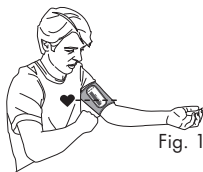

Fig. 1
To determine the proper cuff size, measure the circumference of your left upper arm at the point midway between inside bend of your elbow and your shoulder, Fig 1. If your arm is outside of this range, this device may not be suitable for you and your results may be inaccurate.
1. Rest your elbow on a solid surface with your palm facing upward. Elevate your arm so that the cuff is at the same level as your heart, Fig 1. Be certain that cuff is elevated to the proper level; you may choose to support your hand with a folded towel or book. Relax your left hand.